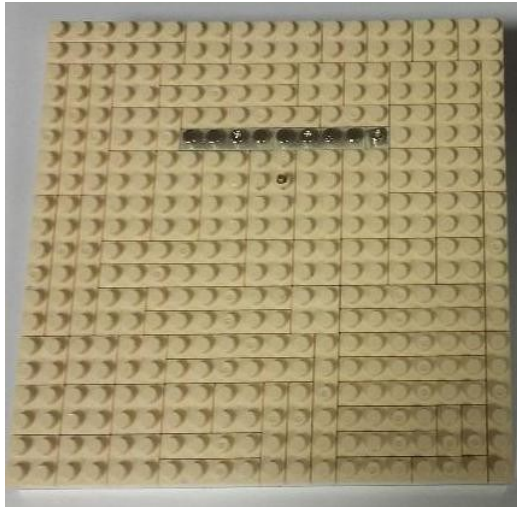
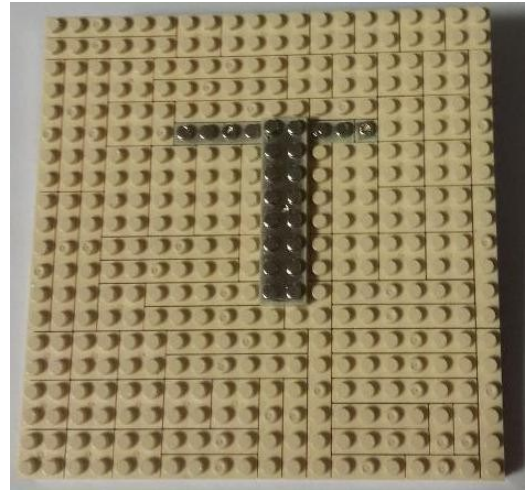

Figure 12 PIFA short pins
Figure 13 PCB Type Feed Metal Cells over the short pins
14. Turn the patch antenna into planar inverted-F antenna. Dismount the dielectric cells at the edge of the patch and locate the metal cells to make a short along the side of the patch. The short pins are shown in Figure 12. The “PCB type feed metal cell” over the short pins is shown in Figure 13. Build the same structure as patch antenna.